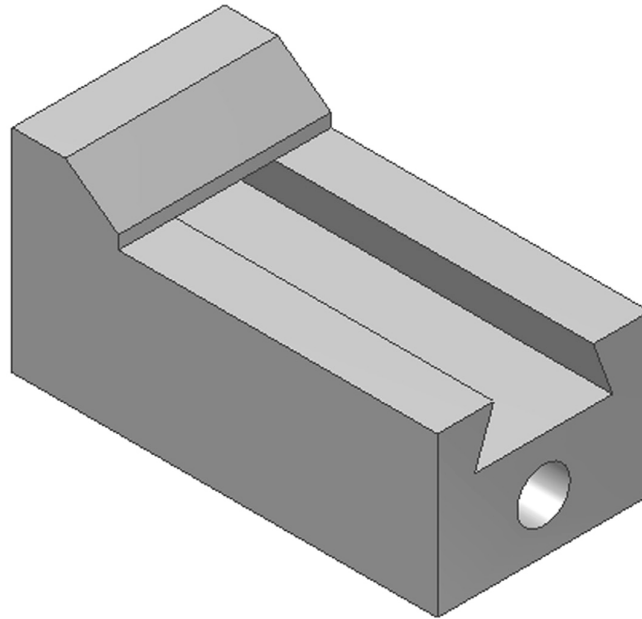

Figure 8
10. Left click on **OK**. Your screen should look similar to Figure 8.